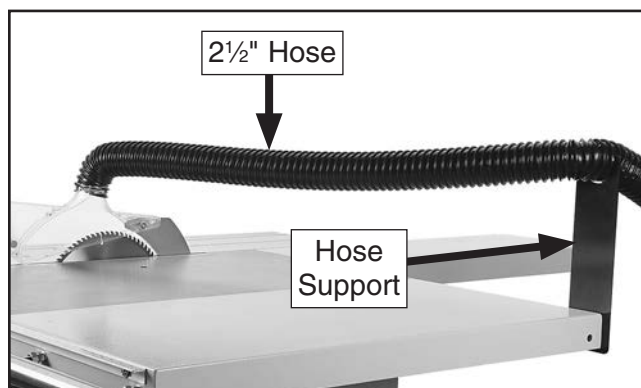

Figure 57. 2½" Dust hose held by hose support.
3. Run 2½" dust hose over dust hose support, as shown in **Figure 57**.